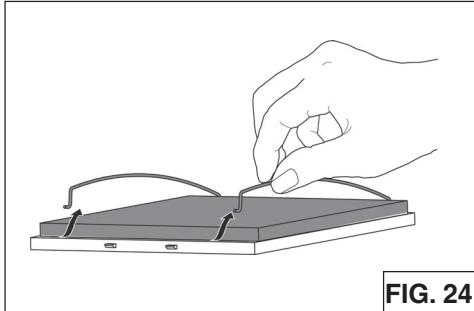

FIG. 24
1. To install the CHARCOAL filter, position the charcoal panel inside the metal filter and fit the 2 filter retainers to lock the charcoal filter (Fig.24).